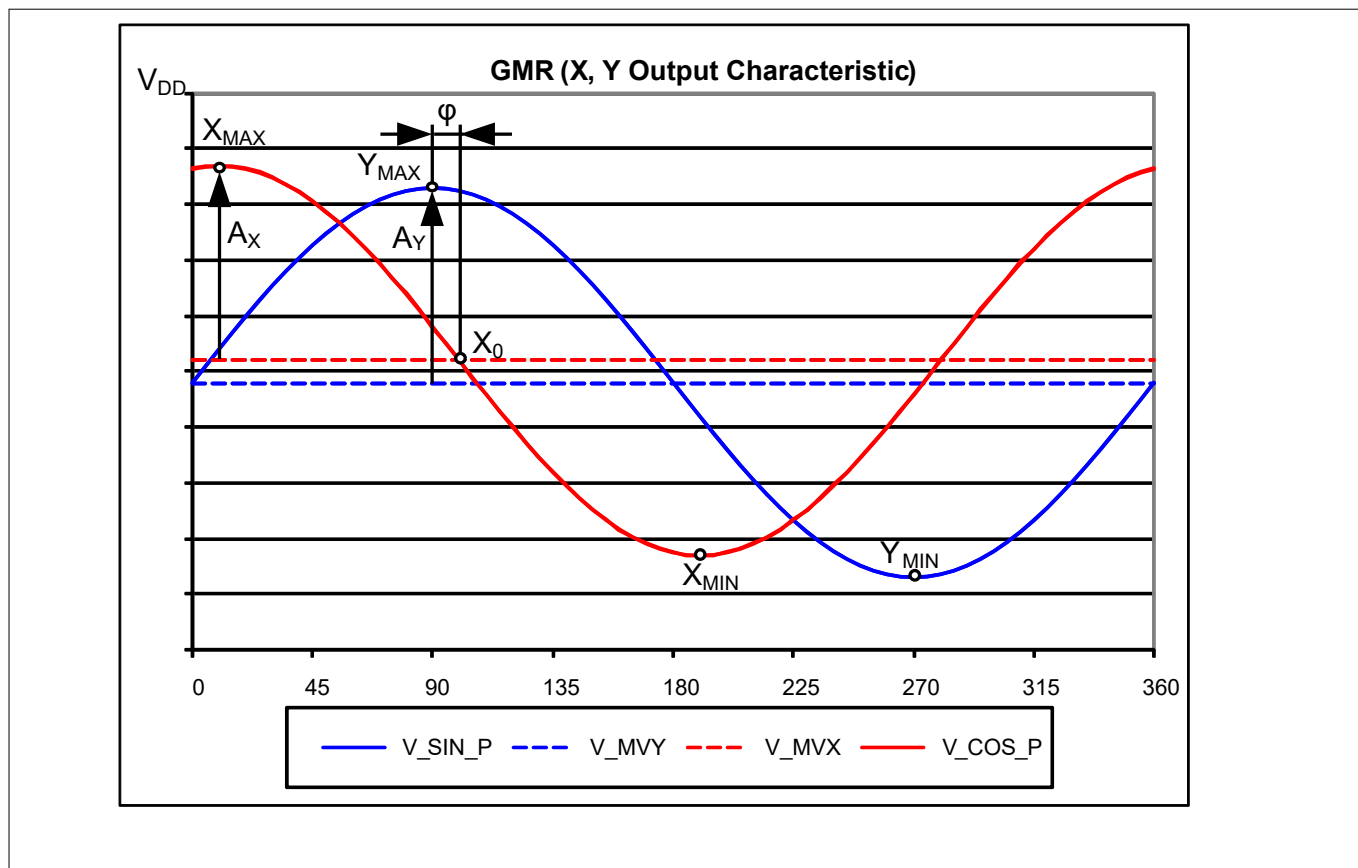
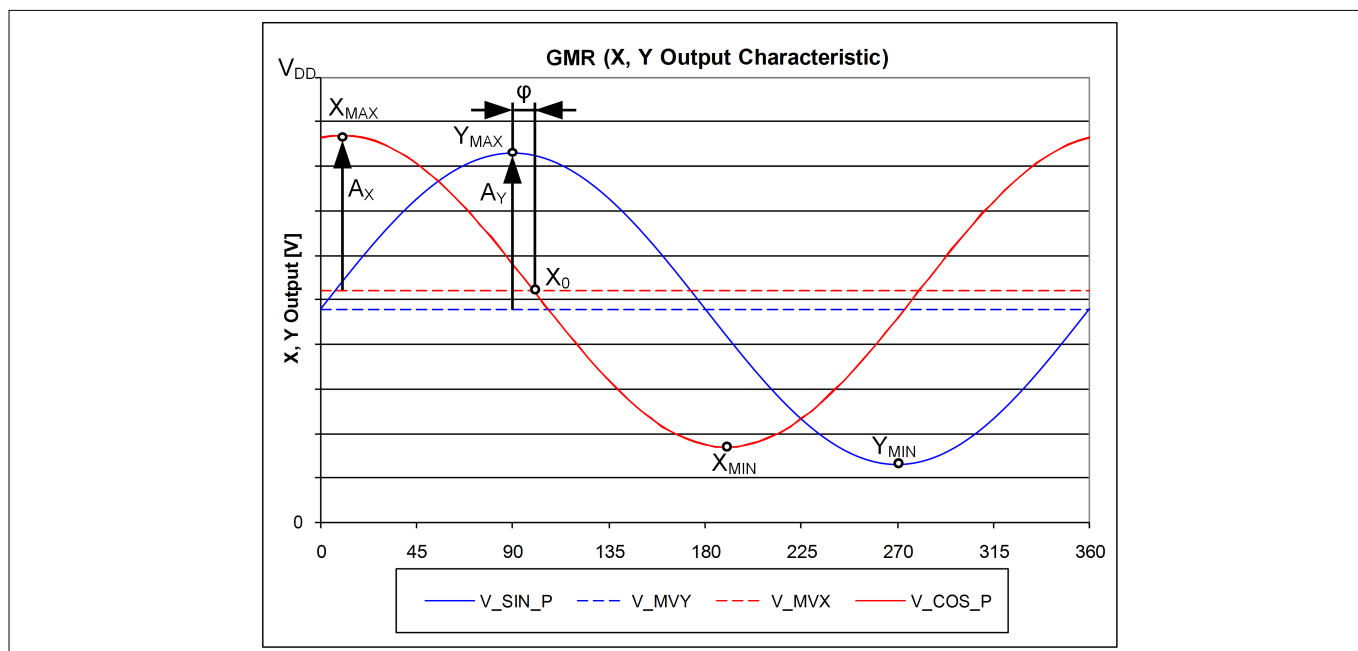
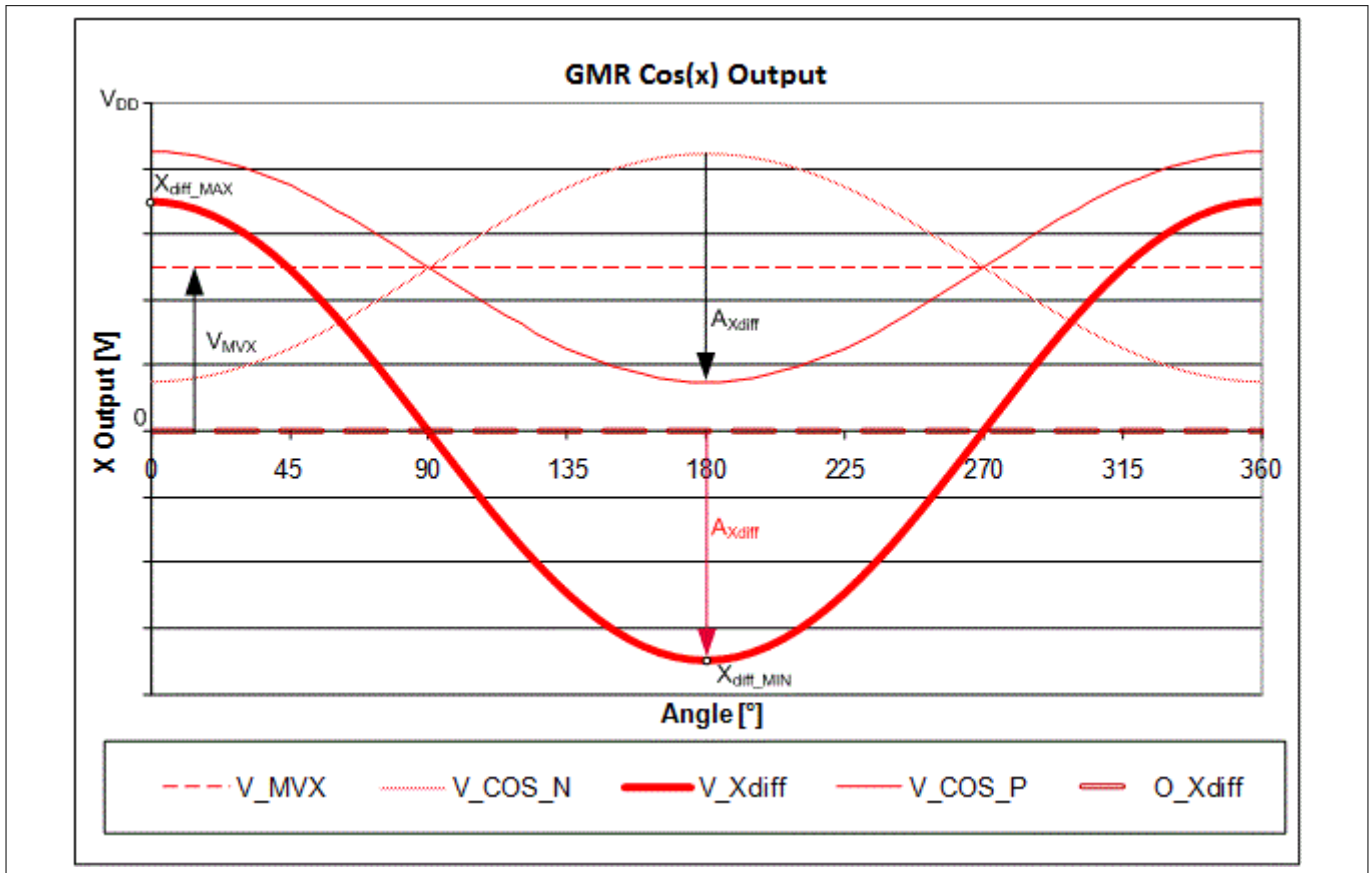

Figure 16 GMR sensor single-ended output signals
Figure 17 AMR sensor single-ended output signals
Figure 18 GMR differential output of ideal cosine
All parameters apply over the full operating range, unless otherwise specified. The parameters in Table 9 refer to single pin output and Table 10 to differential output. For variable names please refer to Figure 16 on page 21 and Figure 18 on page 22.
1) V_{max} and V_{min} correspond to the voltage levels at X_{max} or Y_{max} and X_{min} or Y_{min} respectively as shown in Figure 16, Figure 17.